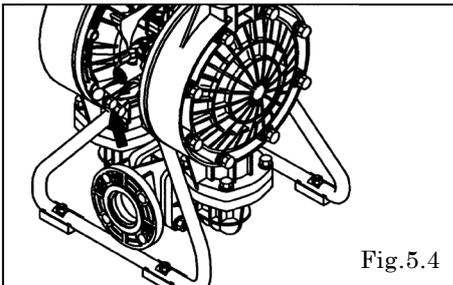

Fig. 5.4
- Remove the 8 (4 on the NDP-H40) retainer bolts from the stand body, and remove the stand body. [Fig.5.4]